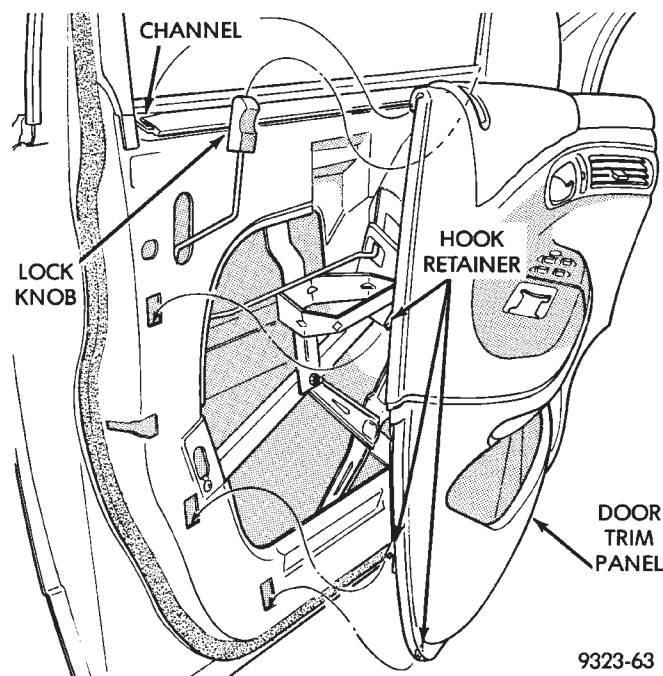

Fig. 15 Front Door Panel Hooks and Lock Bottom
(13) Lift trim panel upward to disengage hook retainers at bottom of trim panel and separate trim panel from door (Fig. 15).
(14) Disengage wire connector from power door lock motor located on door latch.
(15) From behind door silencer pad, disengage push-in retainers holding wire harness to trim panel.
(16) Remove wire harness from behind silencer pad and separate trim panel from door.
(3) Engage wire connector to power door lock motor.
(4) Place trim panel in position on door and engage hook retainers at bottom of trim panel into holes in door (Fig. 15).